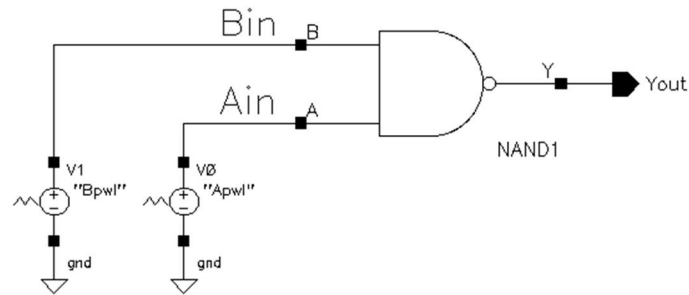

Figure 5. Test bench schematic for **NAND1**.
- A blank schematic window appears. Instantiate your **NAND1** cell, an output pin, and two **vpwlf** voltage generators and a **gnd** from **analogLib**. Add the wire names **Ain** and **Bin**. The schematic should look like the one in Figure 5.